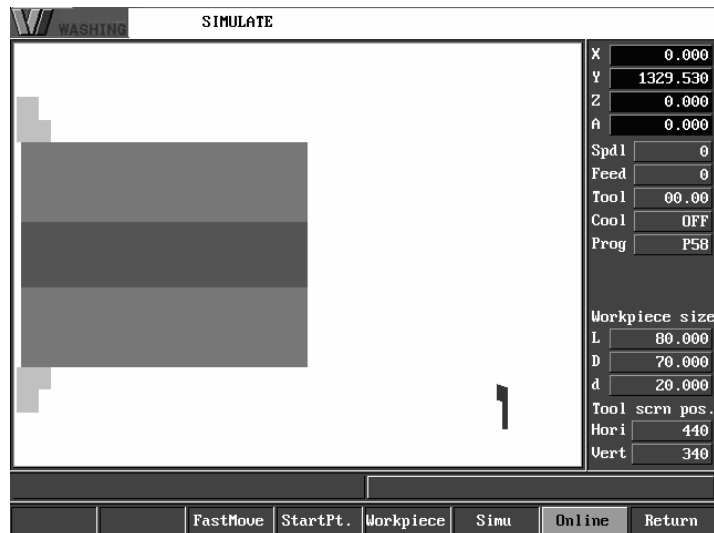

Figure 3-10
2. Press **F5** (set workblank) key to input 3 parameters. When the cursor is in d region, the workblank setting can be completed by pressing **ENTER** key after the parameters are input; the workpiece information modify status appears and the graphical simulation region appears chuck, workblank and schematic cutting tool. For instance, when three parameters are respectively 100, 80 and 10, the graphical interface will be showed as Figure 3-10: